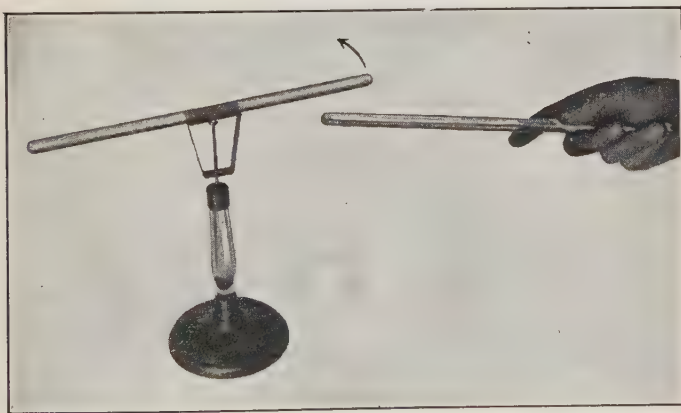

FIGURE 417. — SIMILARLY ELECTRIFIED RODS REPEL.
**EXPERIMENT 109.** — Electrify a glass rod with silk and carefully balance it so that it can turn freely. Bring another electrified glass rod near the suspended rod and observe the action (Figure 417). Next test the balanced electrified glass rod with a rubber rod electrified with flannel (Figure 418). Then suspend an electrified rubber rod and test it with another electrified rubber rod and with an electrified glass rod.